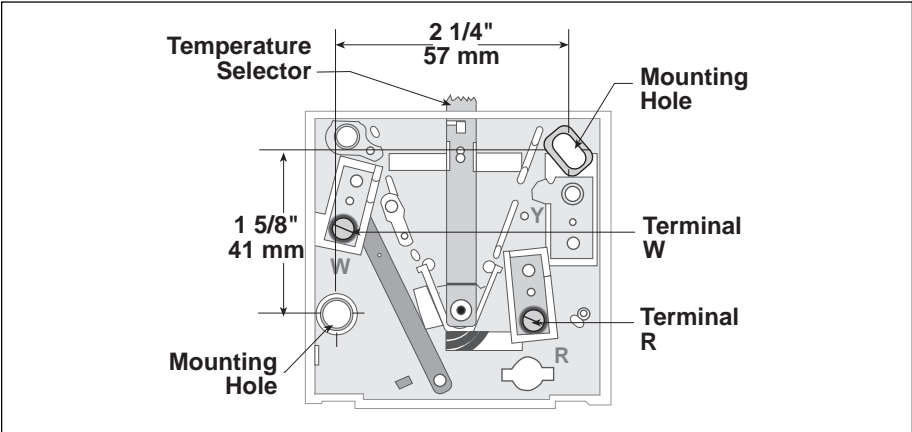

Figure 2. T'stat Body/Rear View
6. Connect wires to screw terminals (see Figure 2) and tighten securely. Bend wires to prevent possible interference with temperature selector.